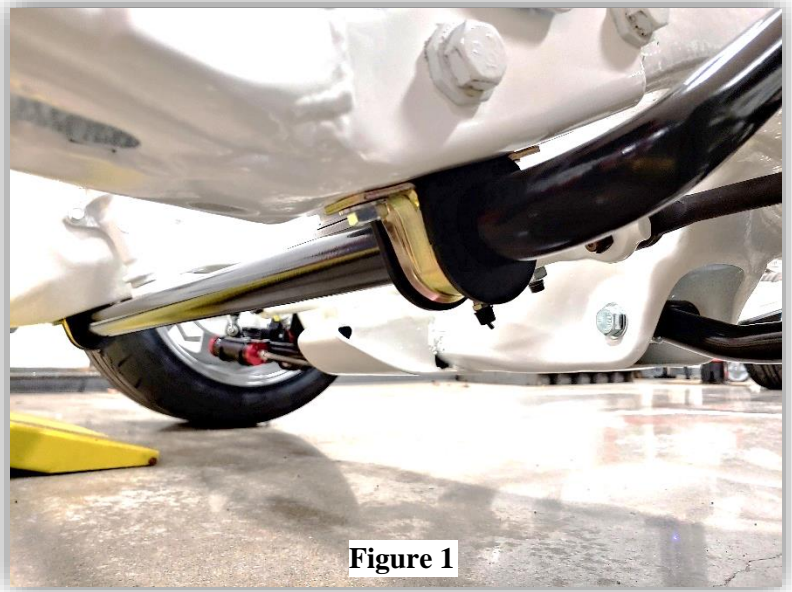

Figure 1
1. Mount the sway bar to the original sway bar frame mounts using the provided bushings, bushing locator tabs, and 3/8" hardware. Center the sway to the frame and torque to 30 lb. ft. **(Figure 1)**